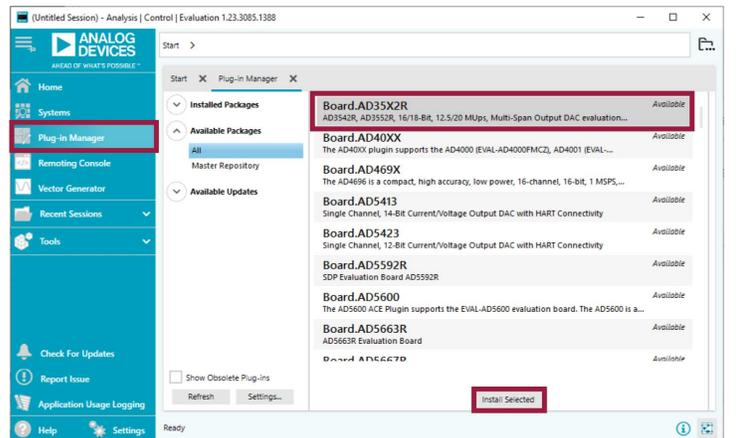

Figure 3. Plug-in Manager
2. Click **Plug-in Manager** on the left-hand menu as shown in Figure 3.